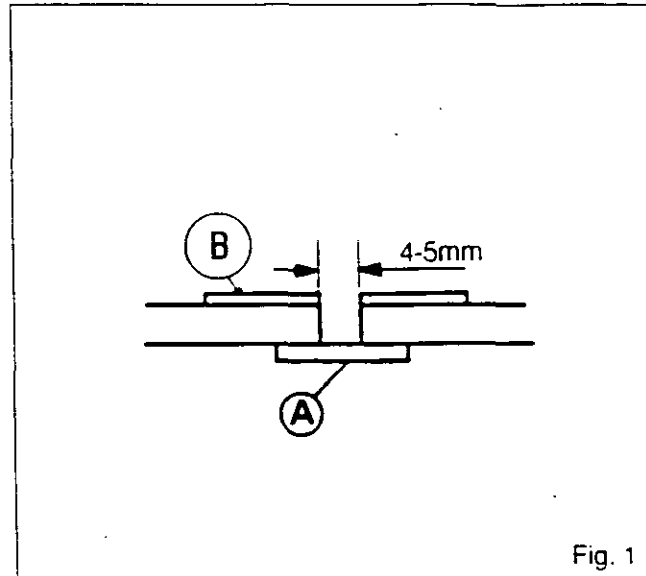

Fig. 1
- 4) Apply three or four 20 mm strips of cellulose adhesive tape (A) to hold the 2 pieces of glass 4 to 5 mm apart (Fig. 1)